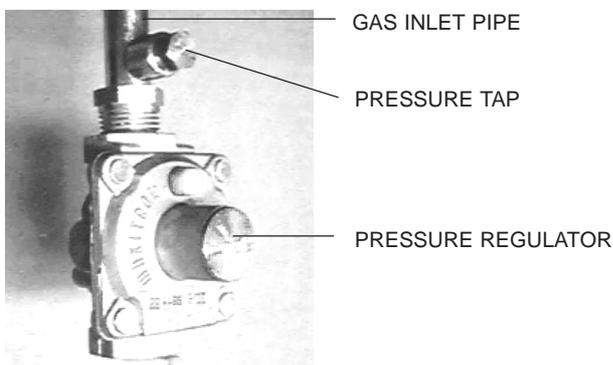

Fig. 4 - Installation of Gas Pressure Regulator
**NOTE: The Aquastar 125 X is supplied with a gas pressure regulator that must be installed on the heater before attaching the gas supply line. See figure 4. Failure to install the gas regulator as shown in figure 4 will be a violation of IAS certification of the unit. The regulator supplied with the heater is preset for the gas shown on the rating plate to the correct pressure. It is an appliance level regulator designed for (low inlet) pressure (less than 1/2 Psig or 15" W.C.) DO NOT connect to an unregulated or high pressure propane line or to a high pressure commercial natural gas line.**
**NOTE: The gas pressures specified below refer to pressures taken at the test pressure nipple on the gas inlet pipe just above the regulator (See Fig 4). These readings should be taken while the heater is operating at full input — i.e. maximum water flow with the temperature dial selector turned all the way clockwise.**